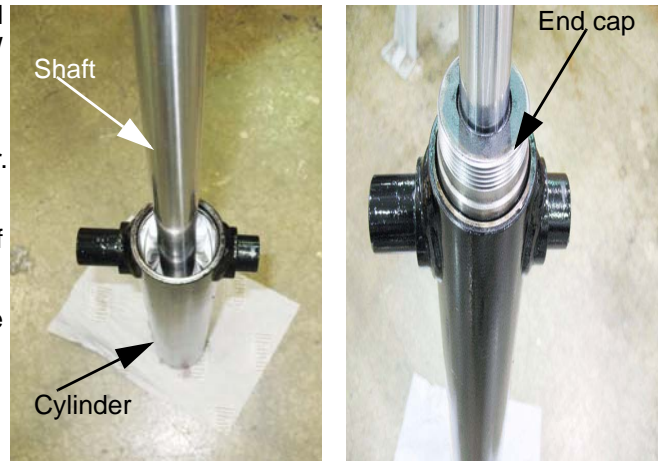

Figure 5.14
- 2.34. Lubricate the piston with the same type of fluid that will be used in the hydraulic system of the log splitter: 10W hydraulic fluid, or Dexron III automatic transmission fluid. See Figure 5.14.